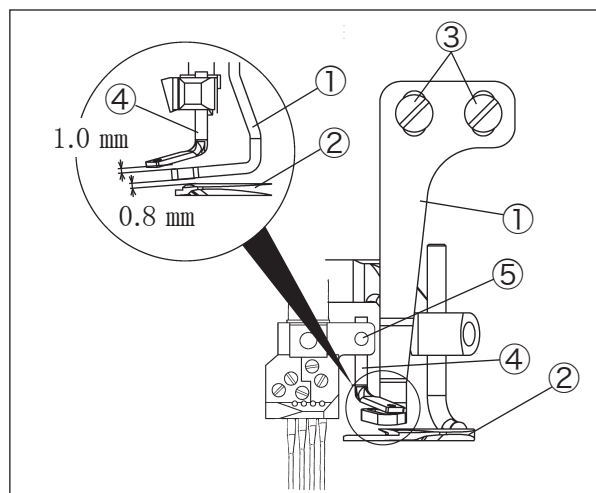

Fig. 6-34
Provide a clearance of 1.0 mm between the top of the top cover thread guide ① and the bottom of the top cover thread eyelet ④ when the needle bar is at the lowest point (Fig. 6-34), and tighten the screw ⑤ so that the center of the thread hole in the top cover thread eyelet ④ is positioned along the extension of edge "b" of the hole of the top cover thread guide ①.
* Adjust the spreader ②, top cover thread guide ① and top cover thread eyelet ④ to suit the thread to be used.